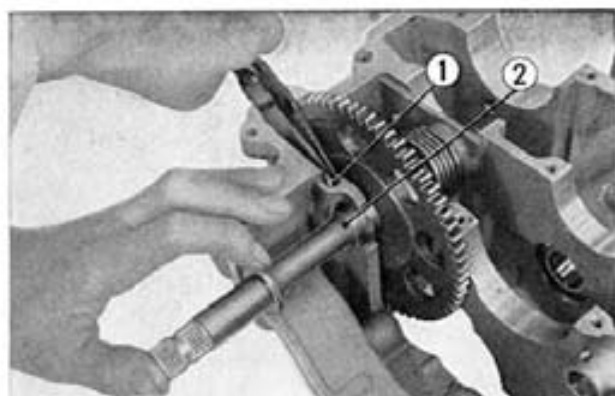

Fig. 3-92 ① Kick starter shaft stopper pin
- ① Kick starter gear
② Kick starter flange
- ③ Kick starter spindle
④ Kick starter return spring
- ⑤ Kick starter pawl
3. Remove the kick starter shaft stopper pin and remove the kick starter shaft. (Fig. 3-92)